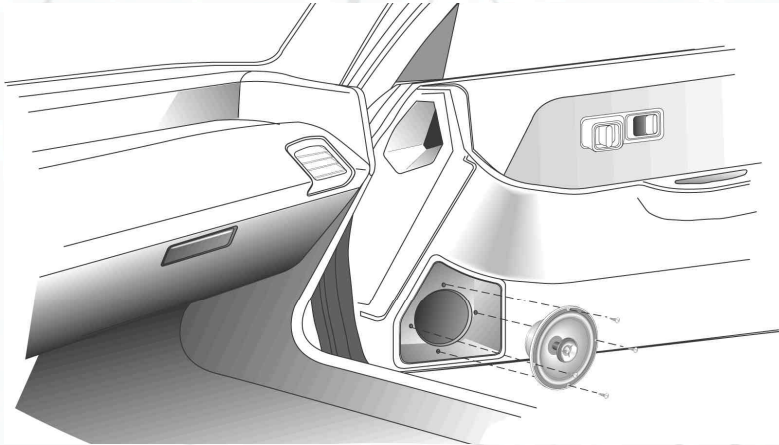
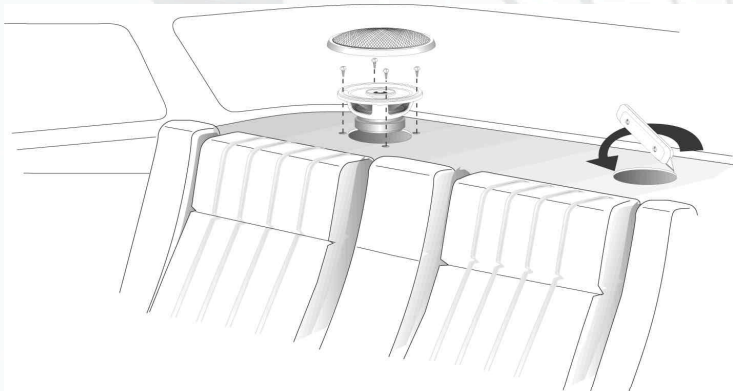

Figure 1 - Factory "Drop In" location in door.
Figure 2 - Creating new speaker location in rear deck.
1. Many vehicles already have factory locations (Figure 1.) to house the "DROP IN" feature of the Tantrum-X Coaxial line. If no existing locations are available or are not used (Figure 2.), check the desired location for adequate cutout area and any depth obstructions. Make sure to allow sufficient clearance for window tracks, structural braces, trunk lid springs, etc.